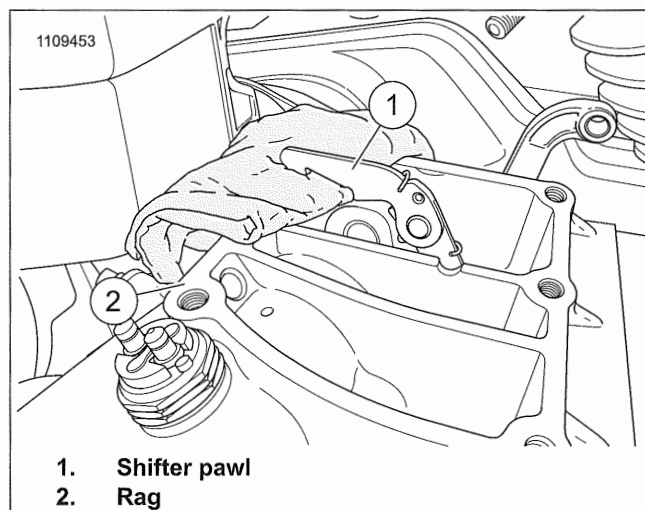

Figure 5-40. Transmission Shifter Pawl
3. See Figure 5-40. Set a rag over the transmission case.